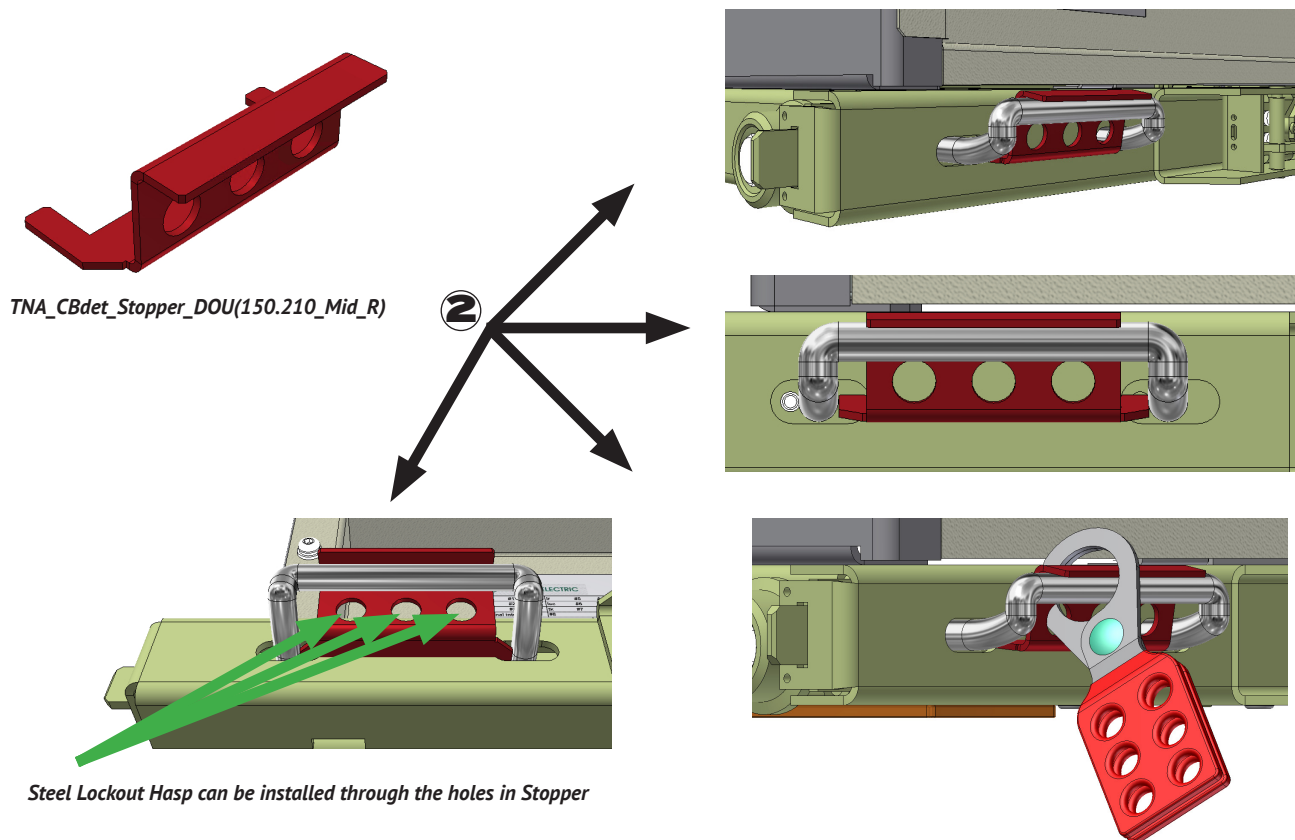

Figure 55
2. Set Stopper as shown in the **Figure 55**.